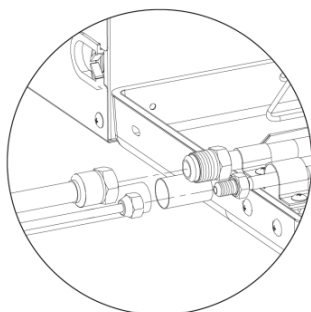

Fig. 4.3.4
- (1) Remove pipe cover and pipe plug.
- (2) Direct the flared part of copper pipe to the center of screwed joint. Twist on the flared nut tightly by hand, as in Fig.4.3.4. (Make sure indoor pipe is correctly connected. Improper location of the center will prevent flared nut from being securely twisted. Thread of nut will get damaged if the flared nut is twisted forcibly.)